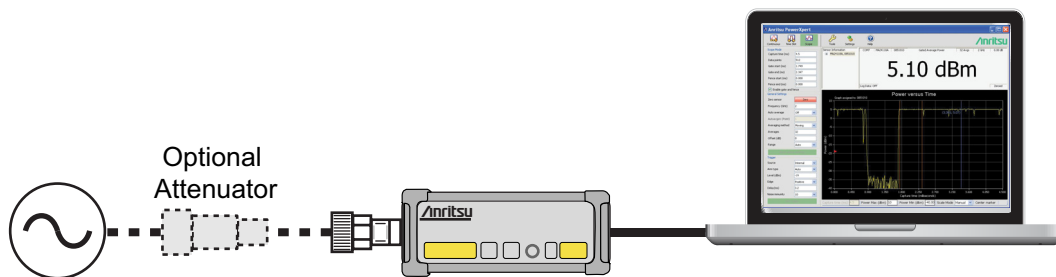

Figure 9-3. Measurement Setup
1. Connect the sensor to a computer as shown in Figure 9-3.